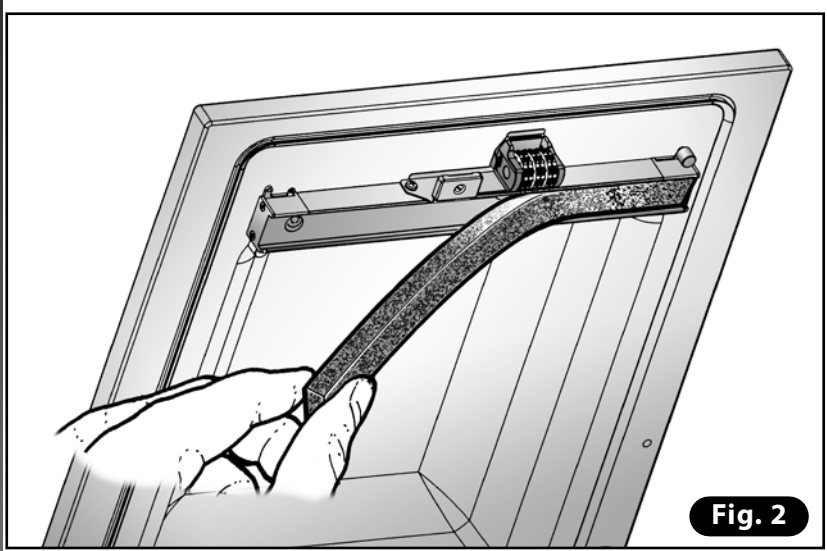

Fig. 2
- 2) Remove the old gasket by sliding it out of its seat. Clean the seat of the gasket with neutral detergent (**Fig. 2**).
- 2) Remove the silicone profile on the offset bar (Fig. 2).